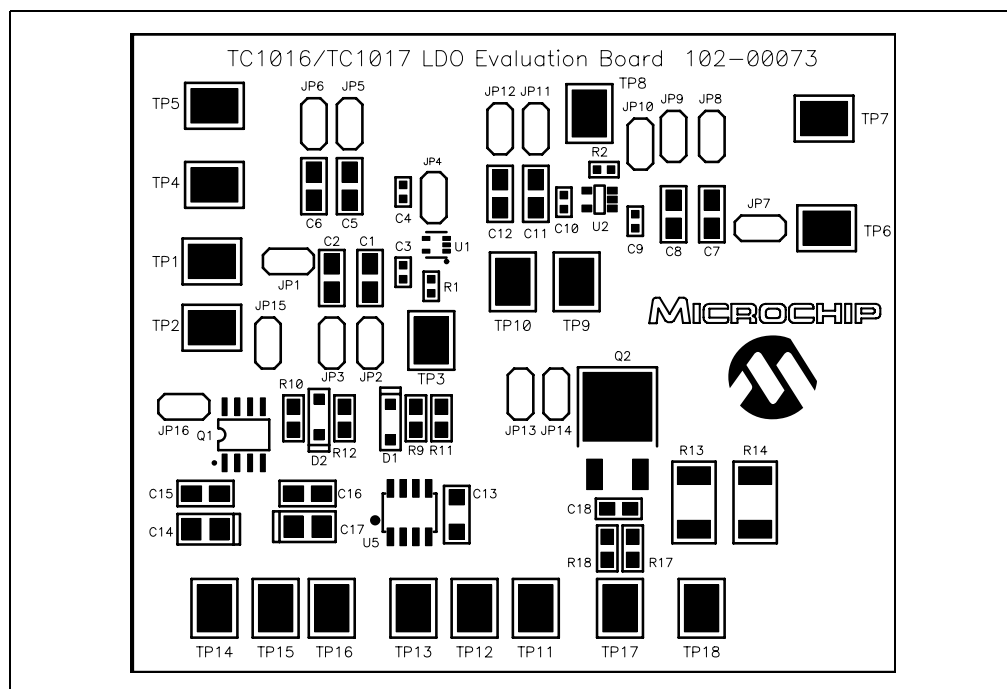

FIGURE 2-1: TC1016/TC1017 LDO Evaluation Board Assembly Layout.
2.5.1 Power Input and Output Connections (Refer to Figure 2-1)
2.7.1 Powering the Line Step Circuitry (Refer to Figure 2-1)
2.7.2 Applying the Input Signal to the Line Step Circuit (Refer to Figure 2-1)
2.7.3 Connecting the Step Voltage to the LDO Input (Refer to Figure 2-1)